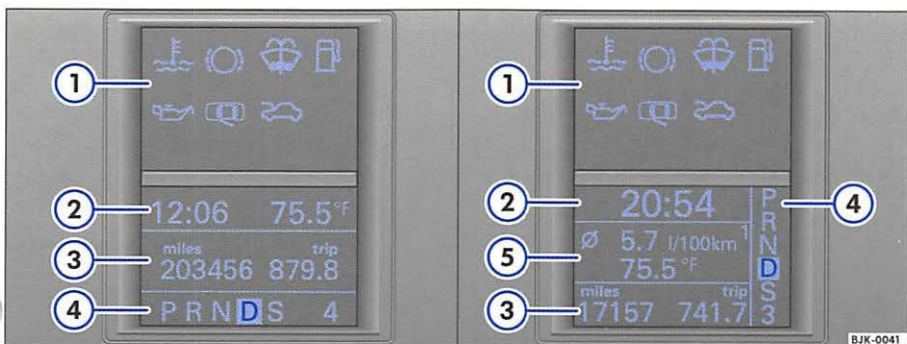
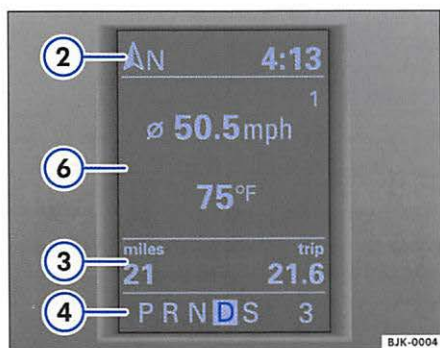

Fig. 6 Displays in the instrument cluster: Left Lowline instrument cluster, right Midline instrument cluster ▶
Fig. 7 Display in the instrument cluster: Highline instrument cluster
The left-hand counter ⇒page 7, fig. 6 ③, ⇒fig. 7 ③ in the display shows the total number of miles (kilometers) driven.